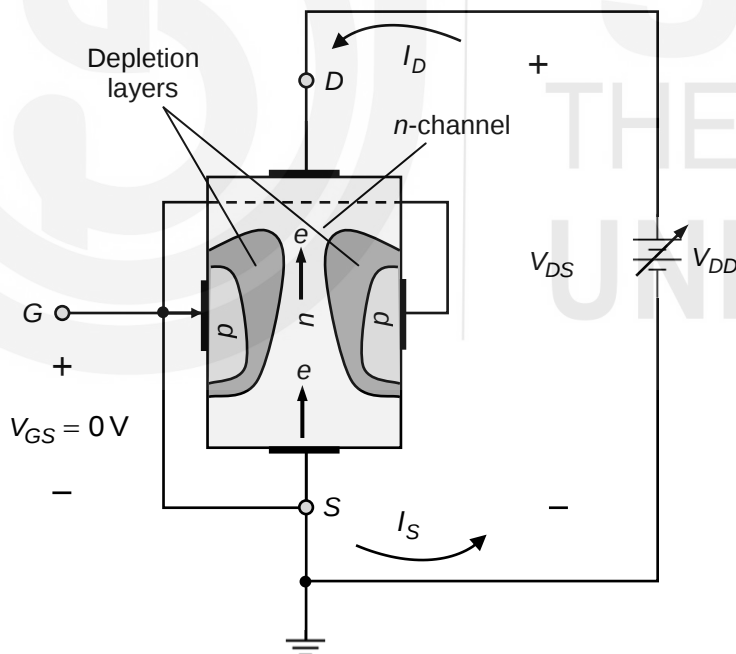

Fig. 3.9: Working of JFET when $V_{DS} > 0$ and $V_{GS} = 0$ V.
Refer to Fig. 3.9, which shows an n -channel JFET. We first consider the case when a positive voltage (V_{DS}) is applied to the drain with respect to the source and the gate is connected directly to the source so that the voltage V_{GS} between the gate and source is zero:
Now what happens when the drain is biased positively with respect to the source by a battery or power supply (V_{DD})? Electrons in the n -channel move towards the drain since it is positively biased. This results in the flow of drain current in the direction shown in Fig. 3.9. The flow of electrons is unhindered in the channel and hence, the source current is equal to the drain current when V_{GS} is zero.
Also note from Fig. 3.9 that the p - n junctions are reverse biased in this case. You can see that the p -regions are negatively biased with respect to the n -region near the drain because the gate terminal is connected to the source terminal, which is negatively biased with respect to the drain. So, virtually no electrons move to the gate and the gate current is zero. Thus, we have:
Now did you note in Fig. 3.9 that the depletion layers of the p - n junctions are wider towards the drain end as compared to the source end? You may like to know: **Why is it so?**
Therefore, **the depletion layers are much wider near the drain end and extend more into the channel in comparison with the source end**. This is how we get the **wedge shape of the n -channel** shown in Fig. 3.9.
- Draw the circuit diagram analogous to Fig. 3.9 for a p -channel JFET for $V_{GS} = 0$ V.